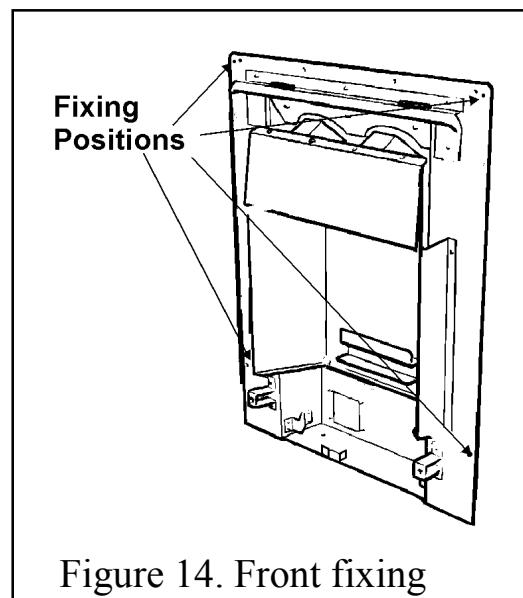

Figure 14. Front fixing
3. Mark the fireplace front surround through the four fixing holes in the side flanges of the convection box. See figure 14.